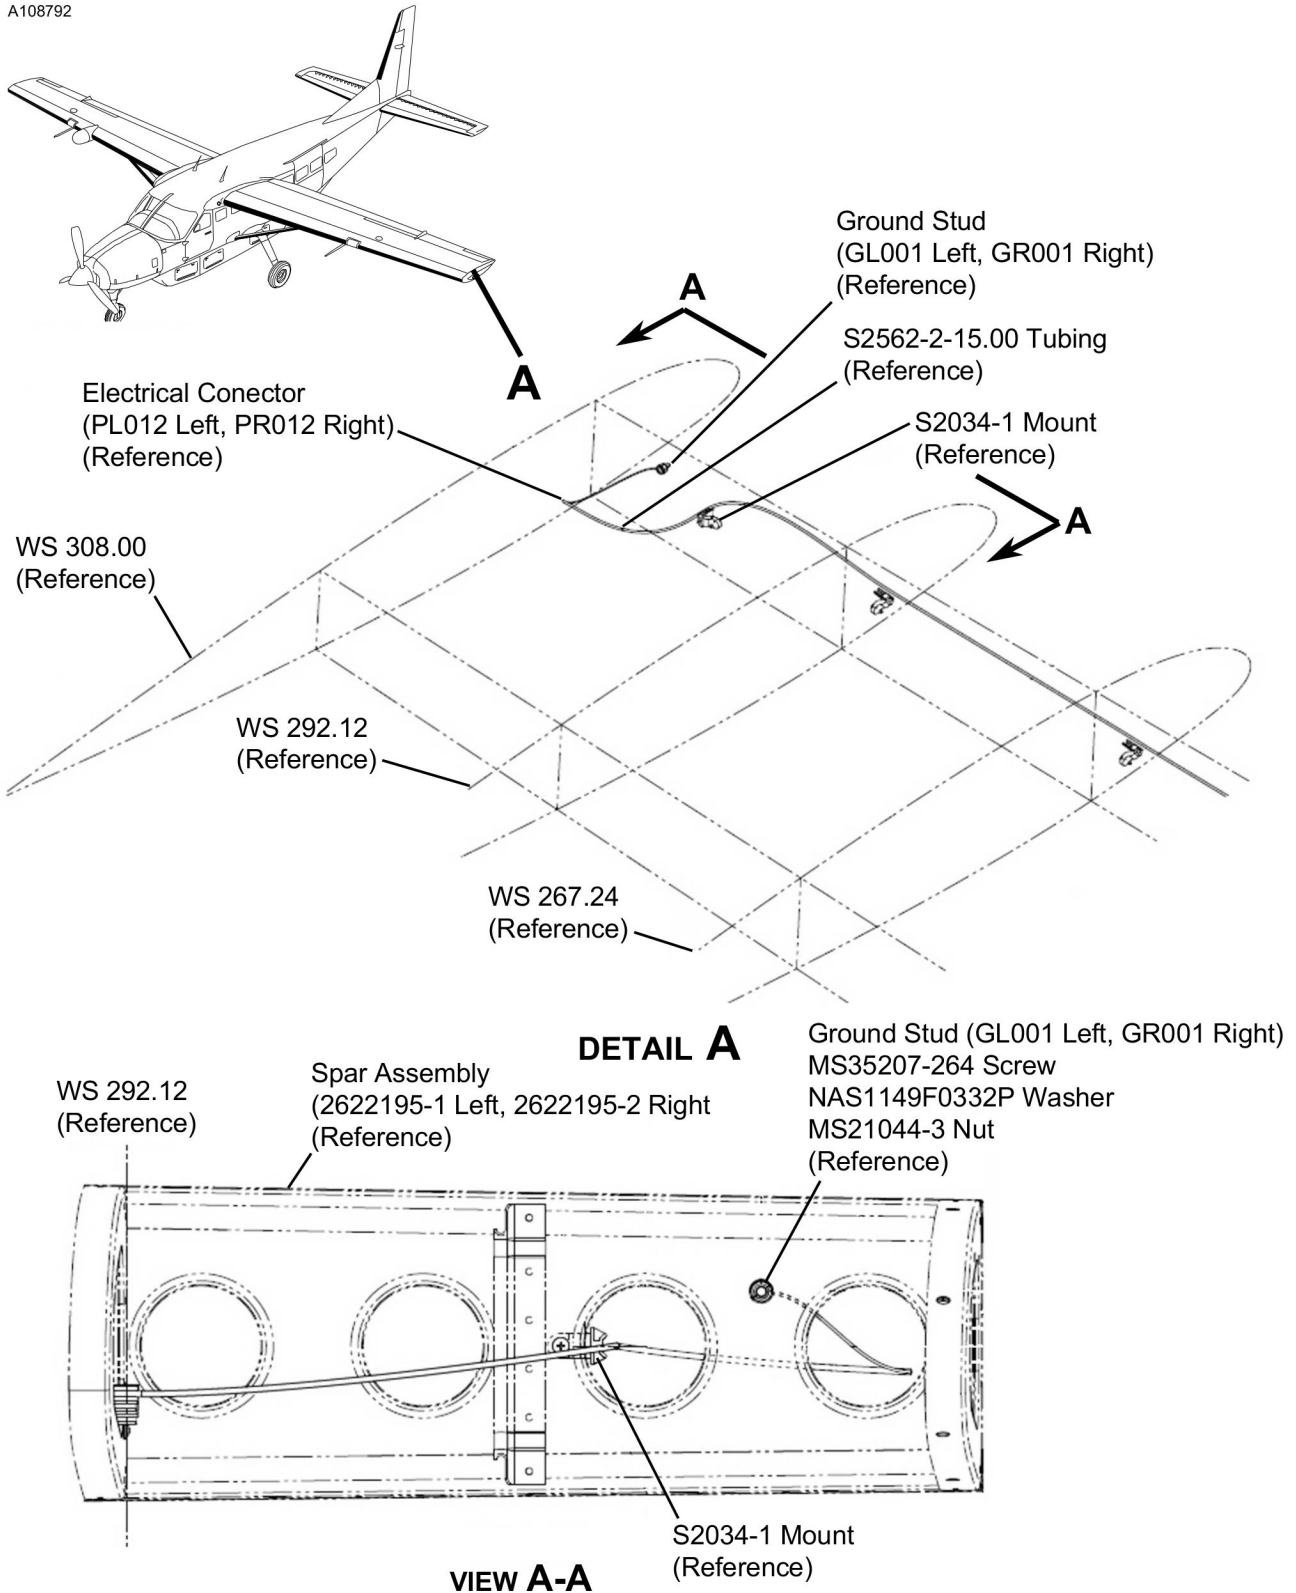

Figure 1. LED NAV/Anti-Collision Light Wiring Modification (Before Modification) (Sheet 1)
3. (Refer to Figure 1, Detail A.) Remove the S2562-2-15.00 Tubing between PL012 (Left), PR012 (Right) Electrical Connectors and the S2034-1 Mount.
4. (Refer to Figure 1, View A-A.) Remove the terminal ends from the GL001 (Left) and GR001 (Right) Ground Studs on the 2622195-1 (Left), 2622195-2 (Right) Spar Assemblies.